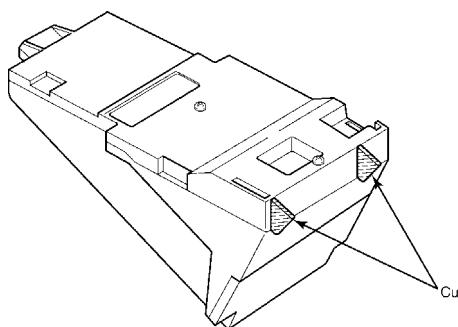

Figure 6-25: Removing the Tabs from the Adapter
2. Cut off the tabs on the adapter as shown in *Figure 6-25: Removing the Tabs from the Adapter*.